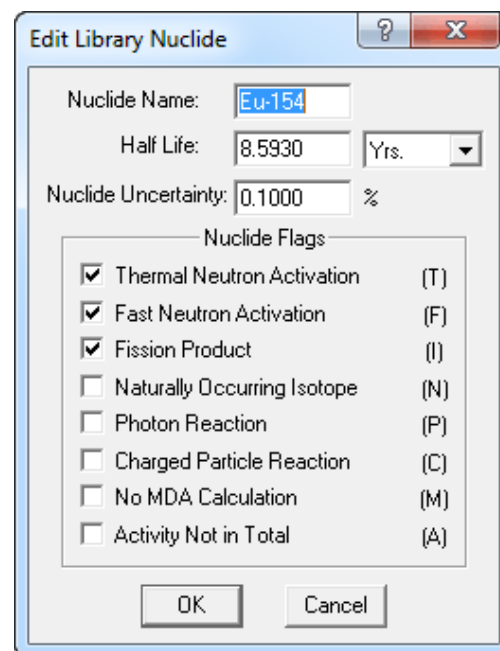

Fig. 103. Edit or Manually Add Nuclide Name.
2. Click on **Edit [nuclide]...** This will open the Edit Library Nuclide dialog (Fig. 103). The **Nuclide Name**, **Half Life**, **Uncertainty**, and **Nuclide Flags** will already be listed.